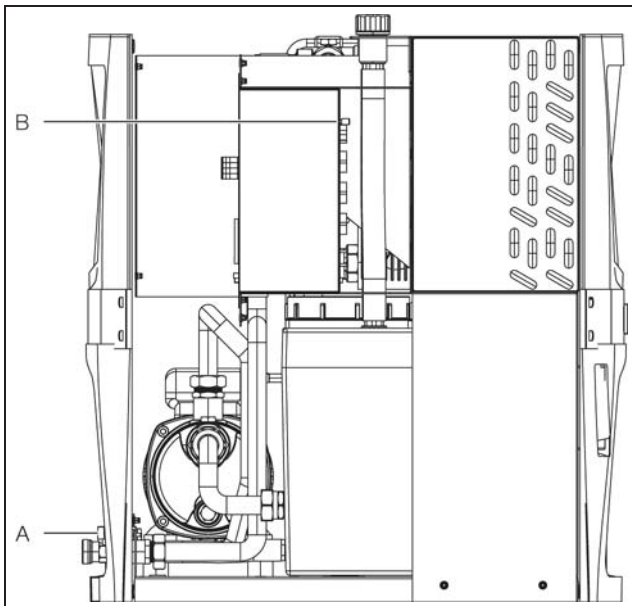

Fig. 47: Cable routing to room temperature sensor
- Guide the connection cable into the chiller via the additional cable gland provided (fig. 47, item A).